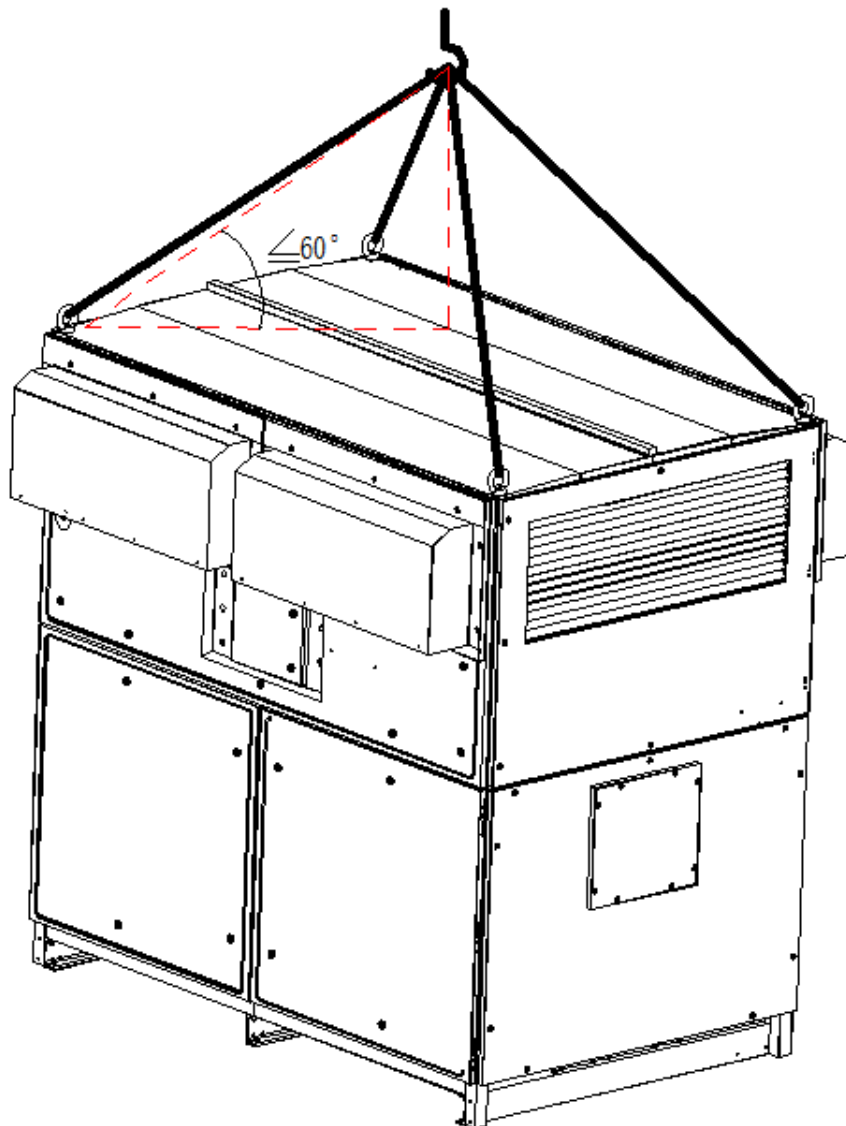

Figure 2-1 Hoisting the inverter
5. During the whole hoisting process, ensure that the product is stable and not tilted. As shown in Figure 2-1, the angle between the wire rope and the horizontal plane shall be no more than 60°.